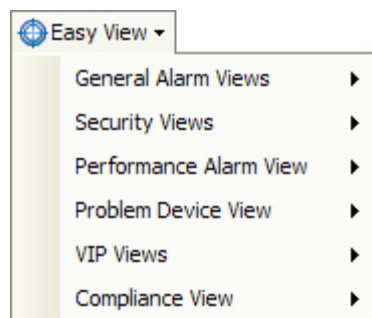

Figure 6-2: AirWISE Easy View Categories
- 1) Click the  Easy View button in the Console's toolbar. The Easy View drop-down list appears. See Figure 6-2.
As shown in Figure 6-2, the Policies & Alarms tree contains several descriptive columns that provide information about each alarm. Table 6-7 describes each column and its purpose.